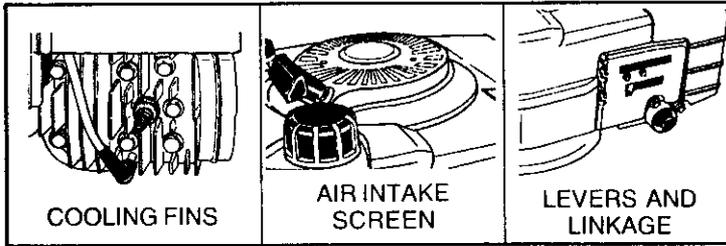

Figure 9
### ⑤ COOLING SYSTEM (see Figure 9):